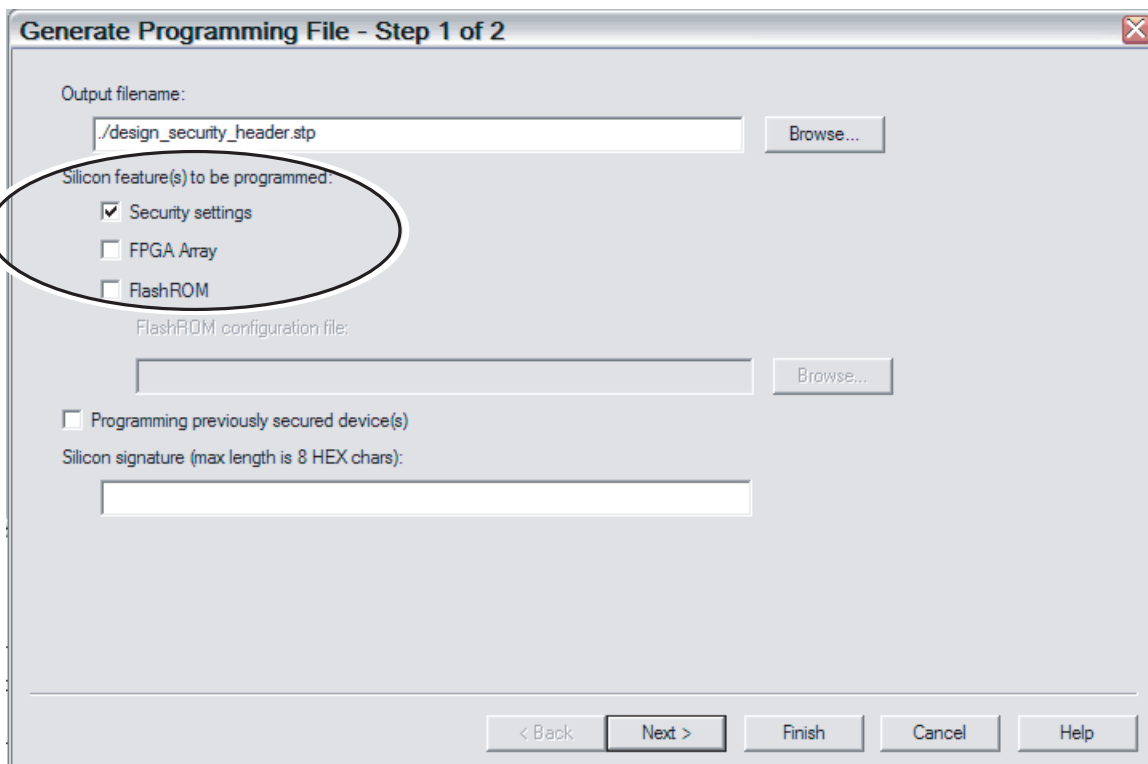

Figure 10 • Security Settings
1. Check only the **Security Settings** option, as indicated in Figure 10. Click **Next**.